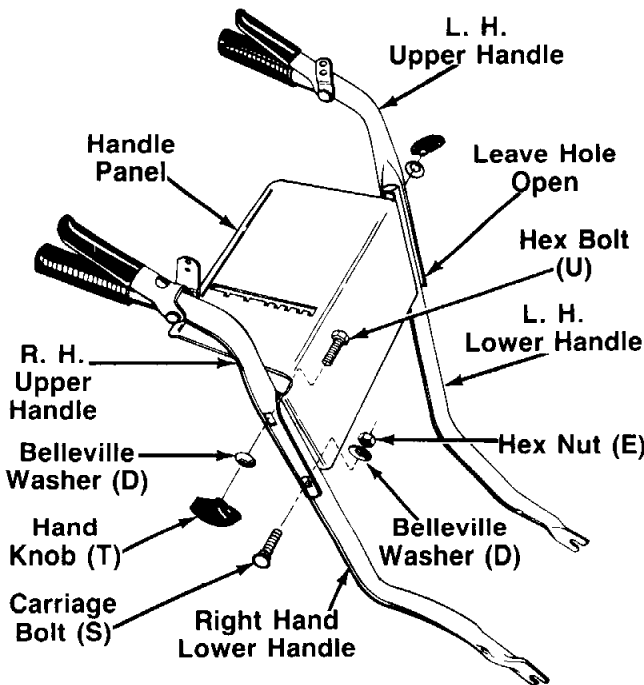

FIGURE 4.
3. Preassemble the upper and lower handles to the handle panel as shown in figure 4.
- a. The top holes in upper and lower handles are secured to handle panel with hex bolts (U), belleville washers (D) (cupped side is against upper handle) and hand knobs (T). Do not tighten at this time.
- b. The lower holes in right hand upper and lower handles are secured to the handle panel with carriage bolt (S) (head of carriage bolt is to the outside of the handle), belleville washer (D) (cupped side against the handle panel) and hex nut (E). Do not tighten at this time.